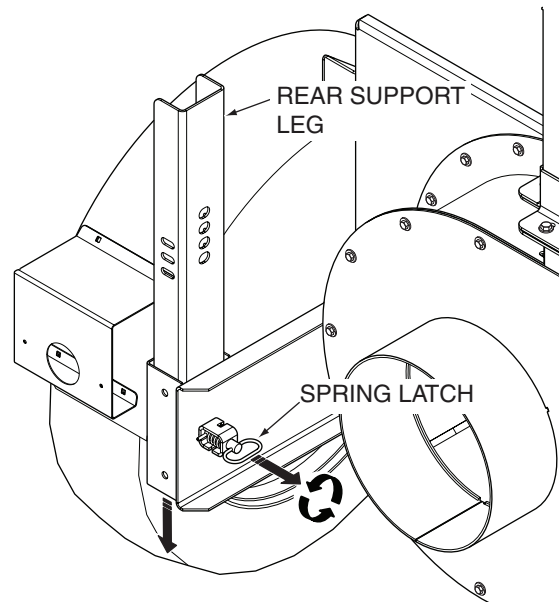

Figure 4-4. Lowering the Rear Support Leg
6. Pull and turn the spring latch to unlock the pin securing the rear support leg in the transport position. See Figure 4-4.